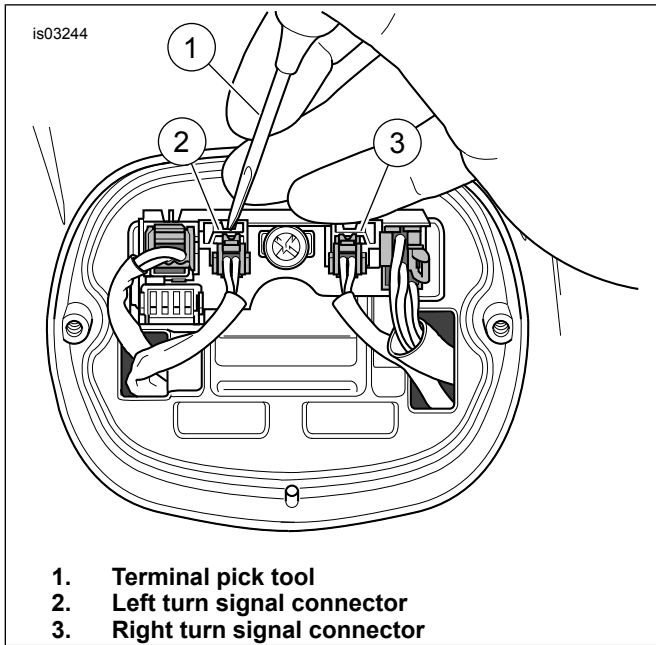

Figure 3. Remove Turn Signal Connectors
4. See Figure 3. Using a Terminal Pick Tool (1), press locking tabs and disconnect turn signal connectors (2-place) (2, 3) from circuit board.